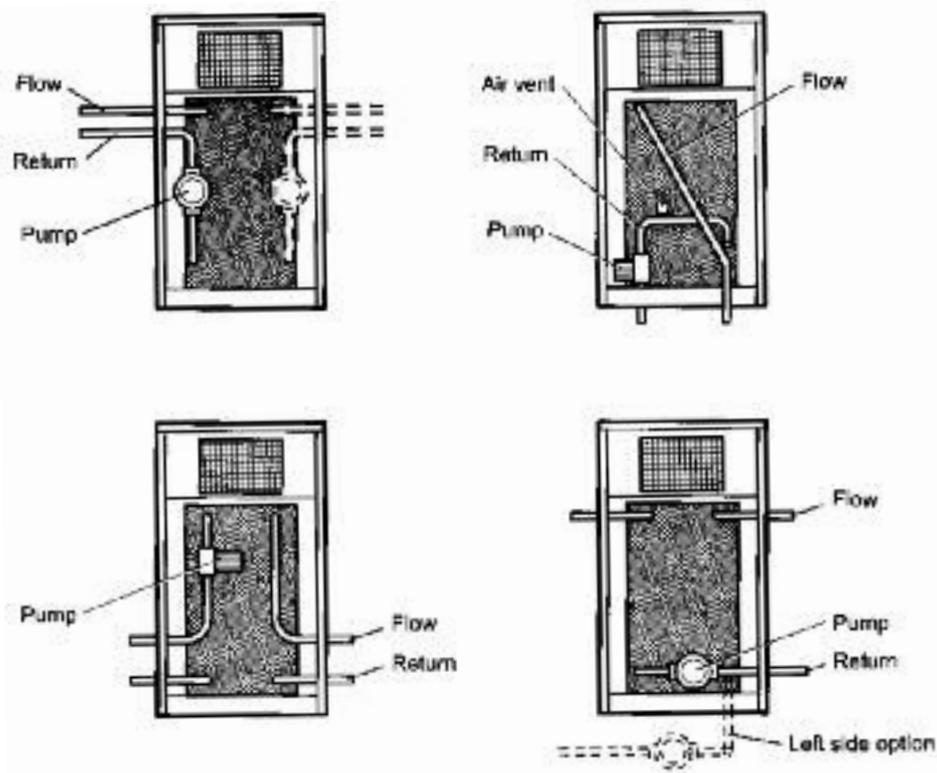

Fig. 14a – 110/140 Water connections
- 9 If required, fit the circulating pump to one of the four tappings on the back of the boiler (see Fig. 14a). Two 1¹/₄" x 28 mm pump unions, two 1" BSP bushes, and two 1" BSP x 28 mm elbows are supplied.